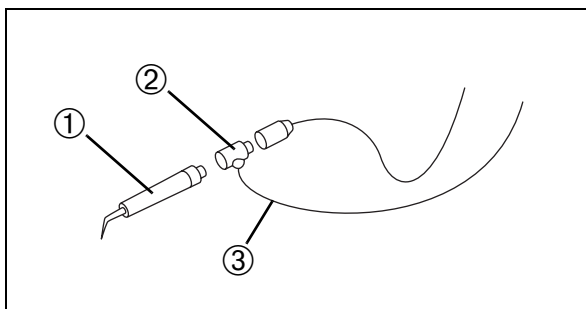

Fig. 75
In this case the intermediate sterijoint piece ② (Fig. 75) – is needed – with or without a light guide.
- Remove the handpiece ① (Fig. 75) from the hose.
- Attach the intermediate sterijoint piece ② between the handpiece ① and hose.
- Take the infusion hose ③ belonging to the steripump and attach it to the intermediate sterijoint piece.